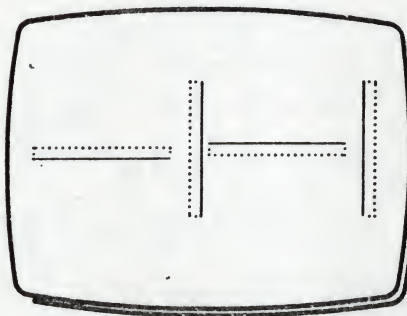

Fig 6
- 5 Press and hold L and rotate Z to rotate the box cursor. The solid line defines the bottom of the text. See Fig 6 for the different rotations possible.